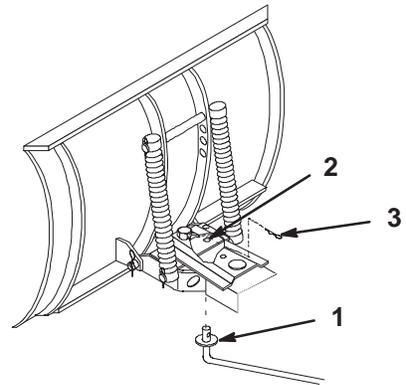

Figure 4
- Insert control rod, end with welded washer, thru hole in bottom plate of channel weldment (Fig. 4). Secure with cotter pin, between the plates.